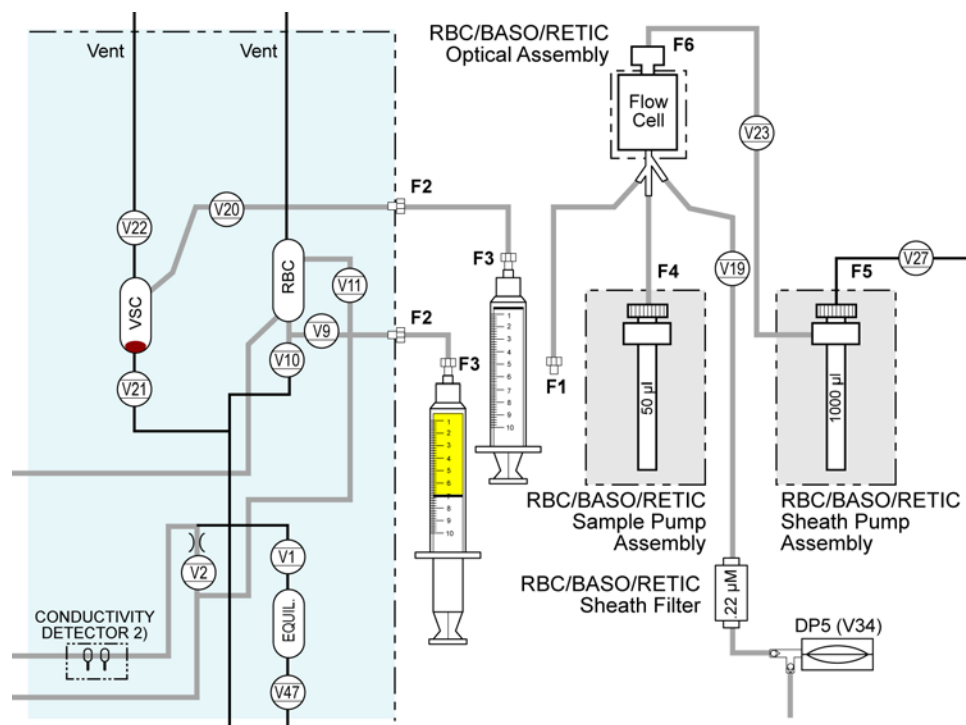

Figure 4. Second empty syringe connected to the shuttle output port
- b. Swap and connect a second empty syringe, as shown in **Figure 4**.